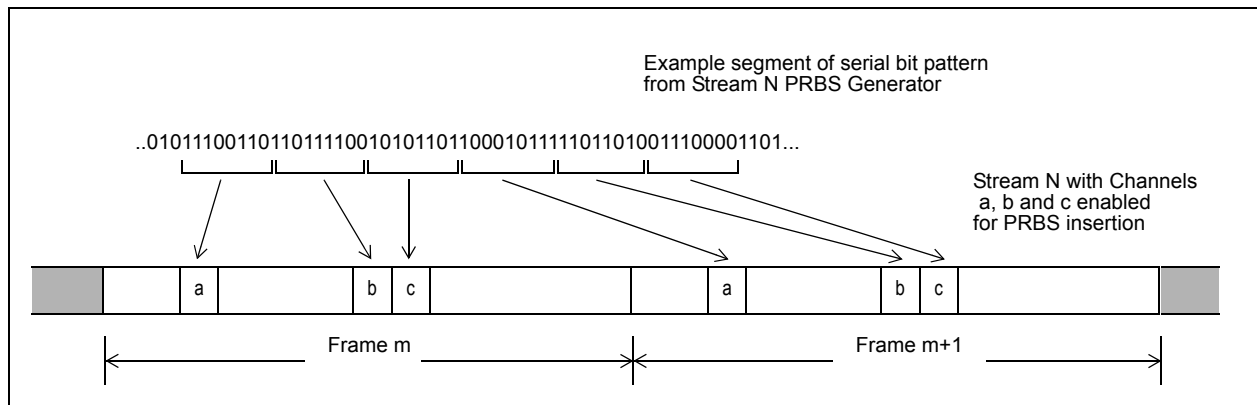

Figure 9 - Example PRBS Timeslot Insertion
The PRBS bit pattern is sequentially loaded into the output timeslots. An example is shown in Figure 9.
2. The arrival order of timeslots at the PRBS detector must be the same as the order in which timeslots were transmitted by the PRBS generator. For example, in Figure 9 above, the timeslot order a,b,c must be maintained through the external path from source TDM output stream to destination TDM input stream.